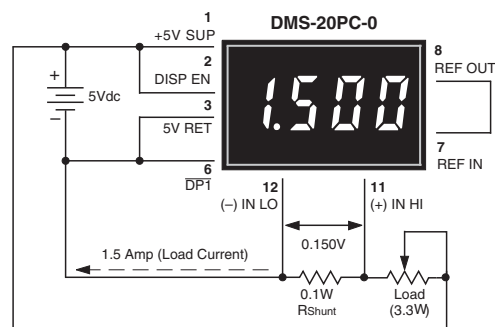

Figure 9. Basic DC Ammeter Circuit
7. Digital Ammeter: Digital ammeters are finding ever-increasing usage because analog-style ammeters (moving-vane types) now cost roughly the same as their digital counterparts. Additionally, analog ammeters are not nearly as rugged as modern digital panel voltmeters. Figure 9 illustrates a typical ammeter application. The circuit uses a ± 200 mV input meter — the preferred range for most ammeters — to measure the voltage developed across a 0.1Ω current shunt. The circuit shown represents a basic ammeter connection diagram. Click here to view a detailed application note describing digital dc ammeters.